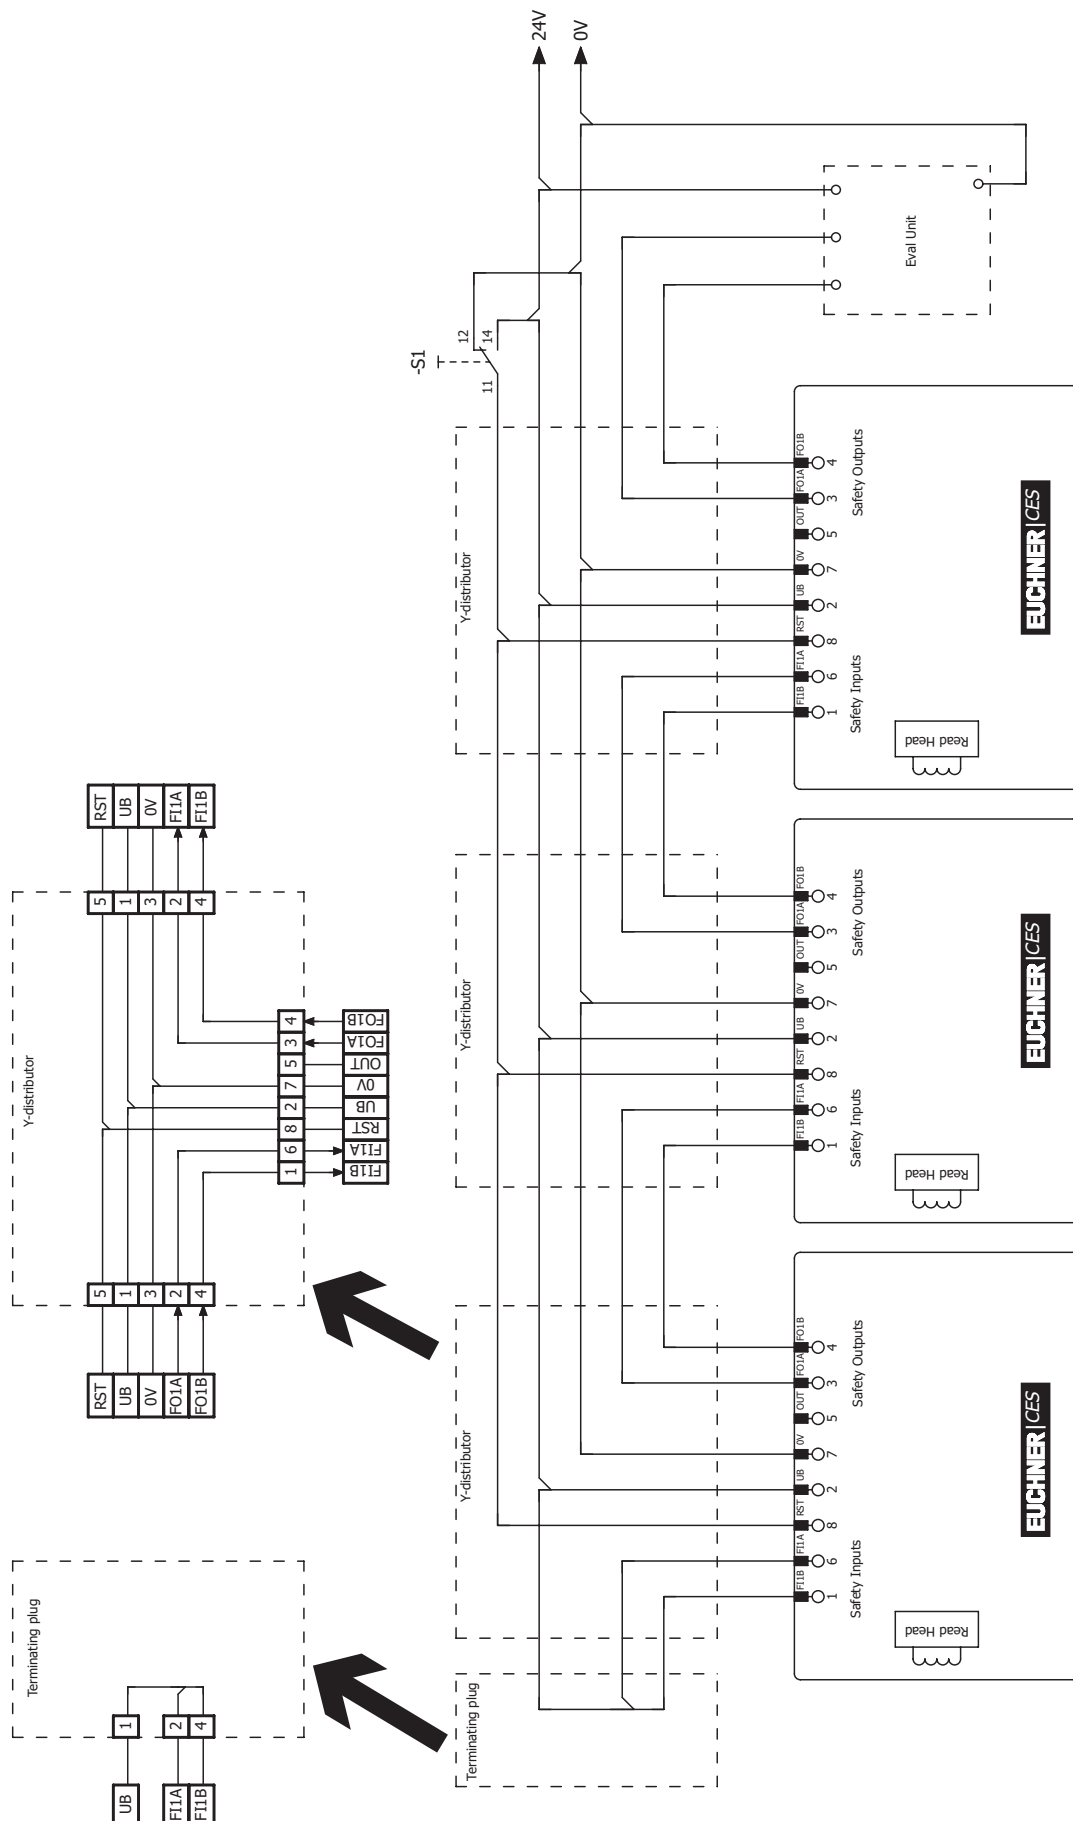

Fig. 4: Connection example for series connection with reset and changeover switch
- › A common signal must be used for all switches in the chain. This can be a changeover switch or the output of a control system. A pushbutton is not suitable because the reset must always be connected to GND during operation (see switch S1 in Fig. 4 on page 21).
The RST input must be connected as shown in *Fig. 4 on page 21* to permit this.